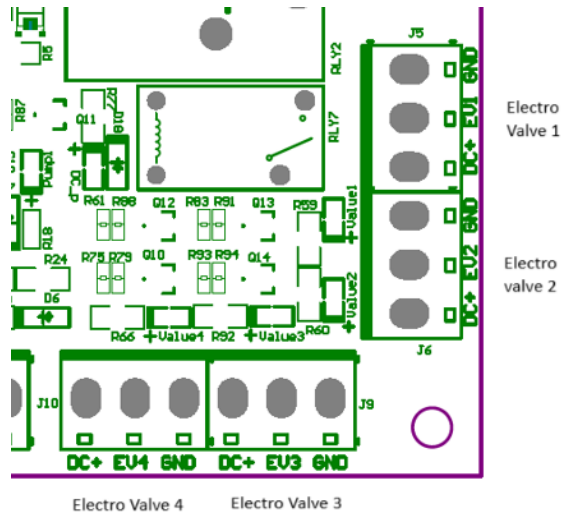

Figure 8: electro valve connection to PCB (control device)
- Figure 8: Electro valve connection to PCB